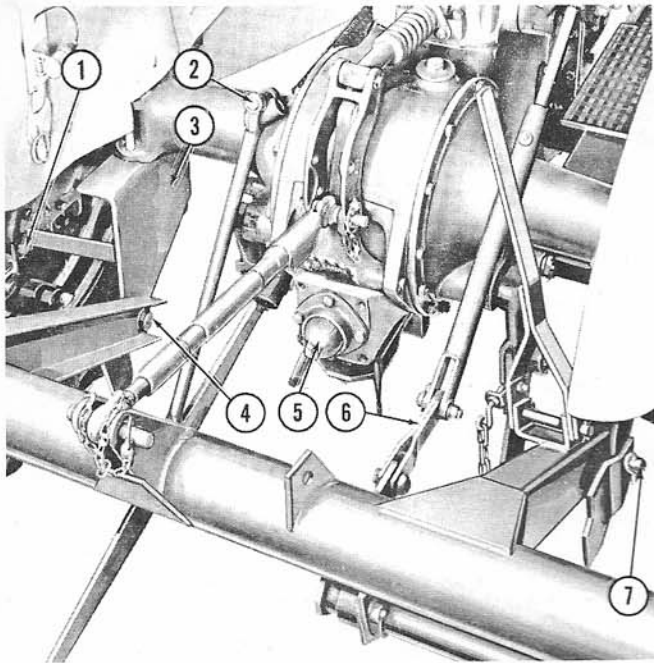
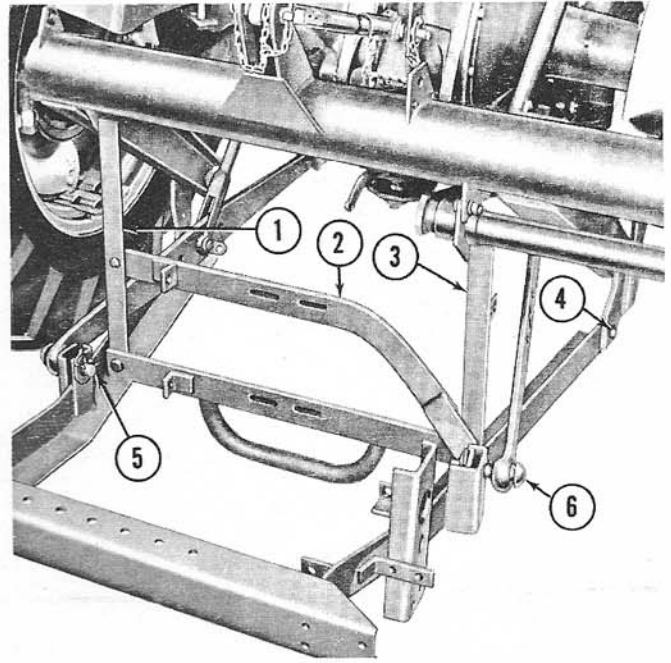

Figure 4
Figure 5
Install the mounting brackets (3), Figure 4, on the tractor fender bolts as shown, and bolt the angle side braces to the tractor final drive housing with bolts, lock washers and nuts (1), Figure 4. Tighten all nuts securely.
3. Remove the tractor drawbar and the P.T.O. cap (5), Figure 4.
4. Detach the left lift rod at the top (2), Figure 4, and lean it against the tractor axle.
5. Attach the main frame to both tractor mounting brackets with pins and hairpins (4) and (7), Figure 4. Install the top link as shown and secure it in the lowest hole of the rocker.
6. Detach the right lift rod at the bottom and install the link extension (6) on the lift rod. Use the front hole in the link.
7. Position the right and left vertical support angles (1) and (3), Figure 5, and drive sheave cross angle (2), on the drawbar frame, as shown.
8. Attach the drawbar frame to the main frame with 1/2" x 1-1/4" hex head bolts, lock washers and nuts (4), Figure 5, then raise the frame and attach the vertical support angles (1) and (3), to the main frame tube with 1/2" x 1-1/4" hex head bolts, lock washers and nuts.